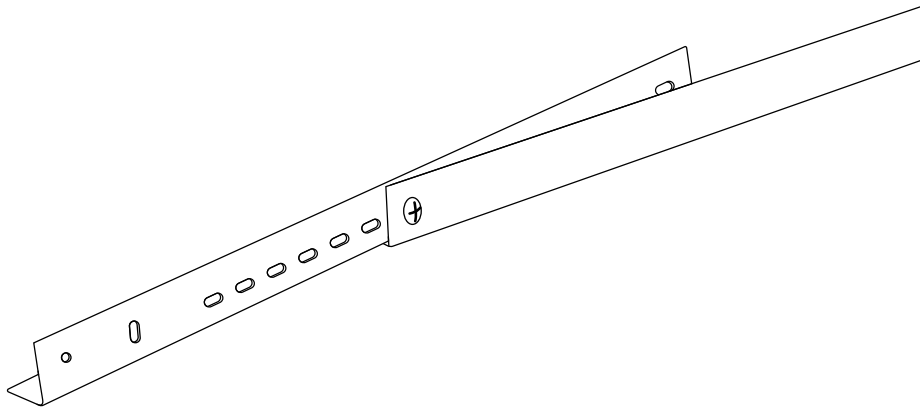

Figure 2
3. Once the height is determined, use 4 screws (H) and nuts (I) to combine the brackets, making sure to use the correct screw hole on each of the four short brackets. *Figure 2*